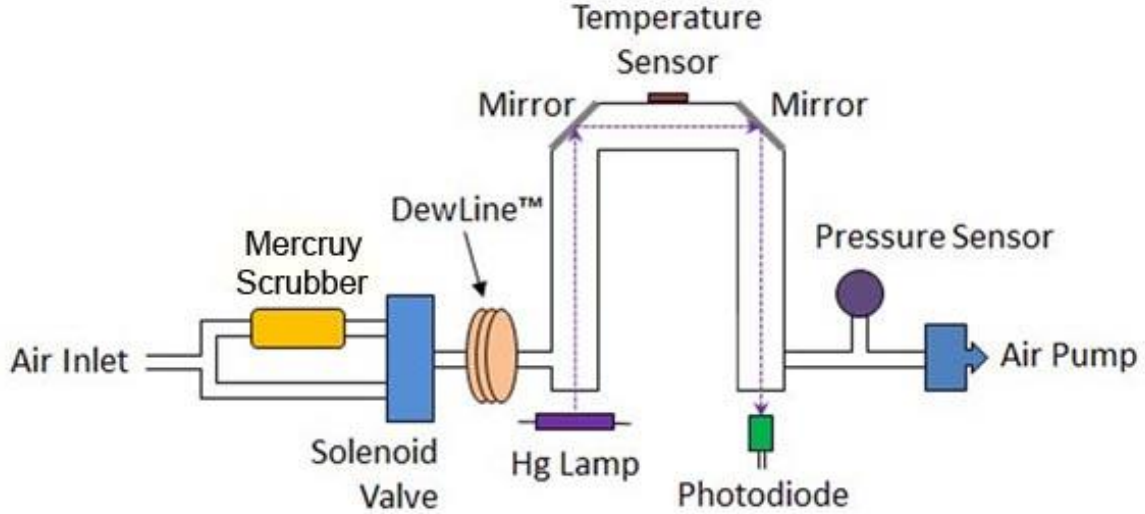

Figure 1.1. Schematic Diagram of the Personal Mercury Monitor.
Figure 1.1 is a schematic diagram of the HERMES Personal Mercury Monitor. Mercury is measured based on the attenuation of light passing through a 15-cm absorption cell fitted with quartz windows. The 15-cm cell length is accomplished by using a "U" shaped cell with mirrors in the corners to transmit light from the lamp at one end to the absorption cell to the detector at the other. A low-pressure mercury lamp is located on one side of the absorption cell, and a photodiode is located on the opposite side of the absorption cell. The photodiode has a built-in interference filter centered on 254 nm, the principal wavelength of light emitted by the mercury lamp. An air pump draws sample air into the instrument at a flow rate of approximately 0.75 L/min. A solenoid valve switches every 2 seconds so as to alternately send this air directly into the absorption cell or through a mercury scrubber and then into the absorption cell. The intensity of light at the photodiode is measured in air that has passed through the mercury scrubber (I_o) and air that has not passed through the scrubber (I).
where MW_{Hg} is the atomic weight of mercury ($200.59 \text{ g mol}^{-1}$). Shown on Fig. 1.1 is the DewLine™, which serves to make the humidity entering the detection cell identical during I and I_o measurements. Please see the 2B Technologies website for a technical discussion of the DewLine™ and its importance to ozone measurements: <https://www.twobtech.com/dewline.html>. The same principle applies to measurements of mercury.